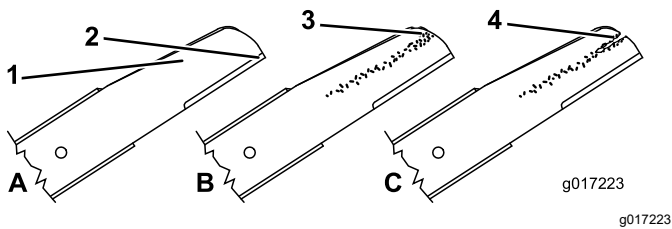
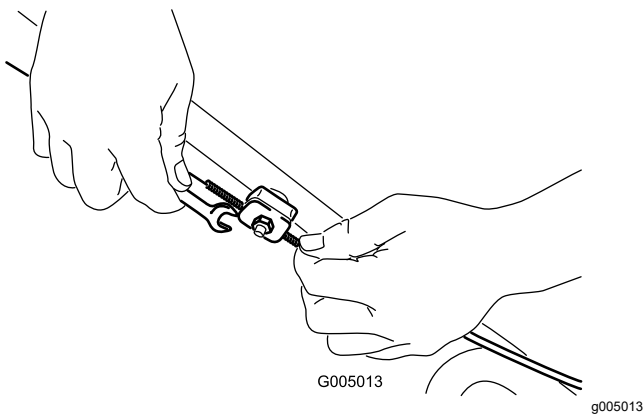

Figure 34
Figure 42
- Inspect the cutting edges (Figure 34). If the edges are not sharp or have nicks, remove the blades and have them sharpened or replace them.
- Inspect the blades themselves, especially the curved area (Figure 42). If you notice any damage, wear, or a slot forming in this area (Figure 34), immediately replace them with new blades.
- Loosen the cable support nut (Figure 42).